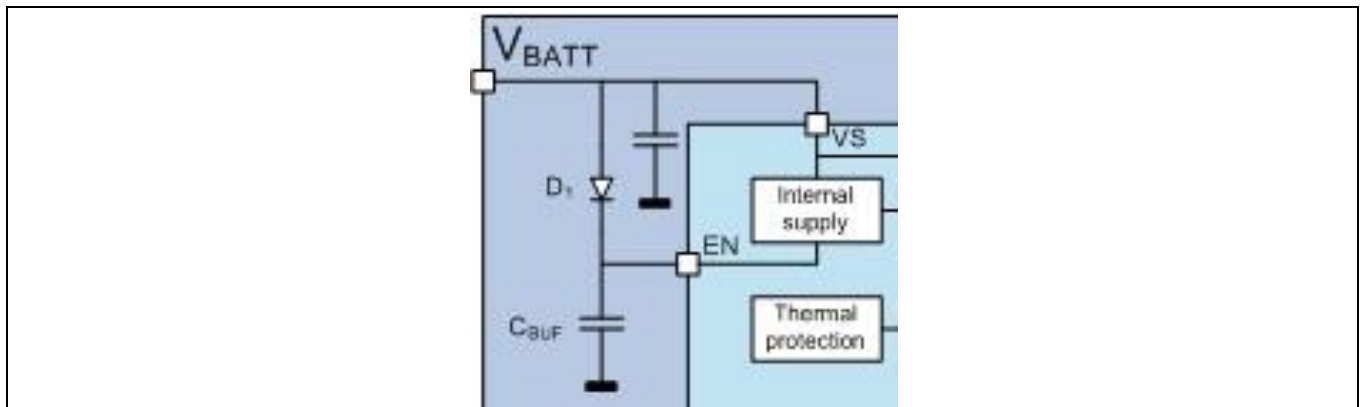

Figure 7 EN pin used as alternate logic supply
- Supplying the logic from the EN pin allows the device to have a faster response time at the outputs during PWM operation, where V_S of the device is PWM controlled directly. The output response time is shorter because the POR time, t_{POR} is longer than the V_S turn on time, $t_{ON(VS)}$. So, if the EN pin voltage is kept above $V_{EN(on)}$, the output will respond more quickly to PWM control and achieve a wider duty cycle range. The capacitor and diode circuit below in Figure 7 is an example of a possible way in the application to keep the input to output delay as short as possible during PWM operation.